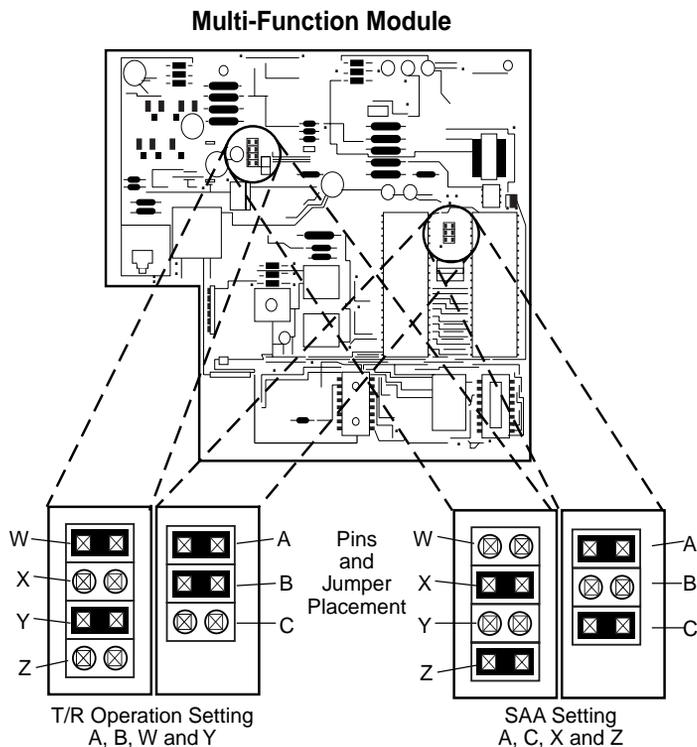

Figure 3-10. Setting and Adjusting the MFM Jumpers
- ▶ 6. Set or adjust the MFM jumpers for either a T/R device or a supplemental alert device. See Figure 3-10.